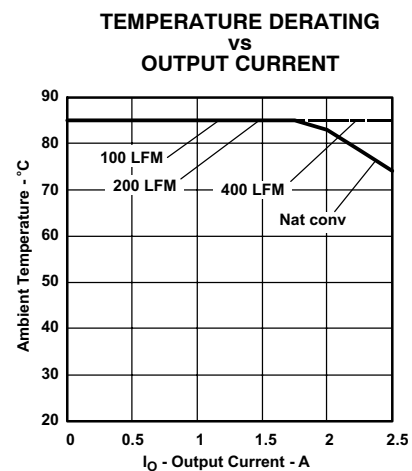

Figure 12.
- (6) The temperature derating curves represent operating conditions at which internal components are at or below manufacturer's maximum rated operating temperature. Derating limits apply to modules soldered directly to a 100–mm × 100–mm, double-sided PCB with 2 oz. copper. For surface mount packages, multiple vias (plated through holes) are required to add thermal paths around the power pins. Please refer to the mechanical specification for more information. Applies to Figure 12.